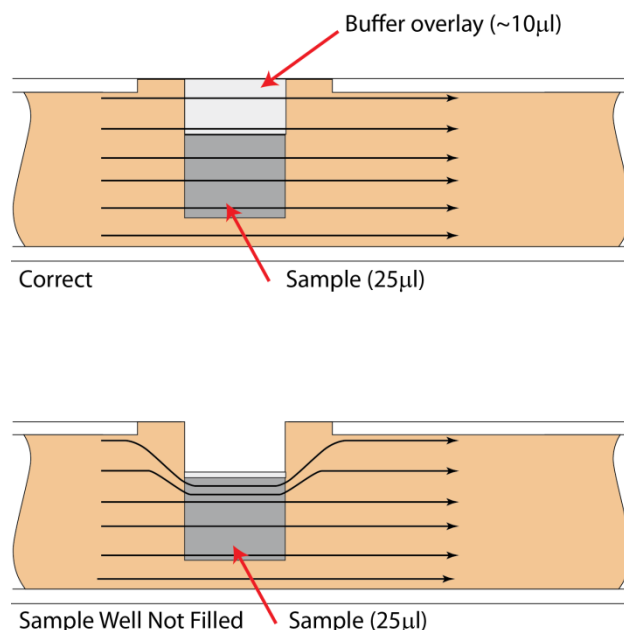

Figure 12.1. An illustration of the electrophoretic effect on a DNA sample when a sample well is not completely filled.
Proper sample loading is critical for best performance of PippinHT cassettes. For maximum reproducibility and accuracy, the sample should travel through the central section of the gel column, and should be bounded on all four sides by uniformly conductive media – either gel or electrophoresis buffer. The goal of the loading procedure is to produce this geometry in the sample loading well, as illustrated in the top section of **figure 12.1**. Properly prepared samples will be 25 μ l in total volume consisting of 20 μ l of DNA mixed with 5 μ l of loading solution/internal standard mix. The loading solution contains concentrated Ficoll as a densifying agent, and therefore the samples will sink and form a high density layer beneath the electrophoresis buffer when pipetted slowly into the sample wells. If there is insufficient conductive buffer over the sample, the electrophoretic forces lines will curve upward as the sample exits the well (see **figure 12.1**, bottom section), and the sample will be drawn to the top of the cassette where it can travel out of the gel into the gap between the gel column and the plastic top of the channel. Sample moving in this gap will travel at a different rate than the sample inside the gel column, and will lead to elution of undesired size fractions in the eluted material. In such cases, the contaminating DNA will usually (but not always) be higher in molecular weight than the selected DNA.
2. **Remove 30µl of buffer the samples wells.** Take care not pierce the agarose with the pipette tip(s). There is gel on all sides and bottom of the sample well. In addition, there is an agarose “chimney” surrounding the top of the sample well that protrudes up through the cassette cover (see **Figure 12.1**). When removing buffer, some users find it useful to immerse the pipette tip just below the surface of the buffer and follow the liquid level down with the tip as the buffer is removed. When buffer removal is completed, there will be ~10ul of buffer left in the well.